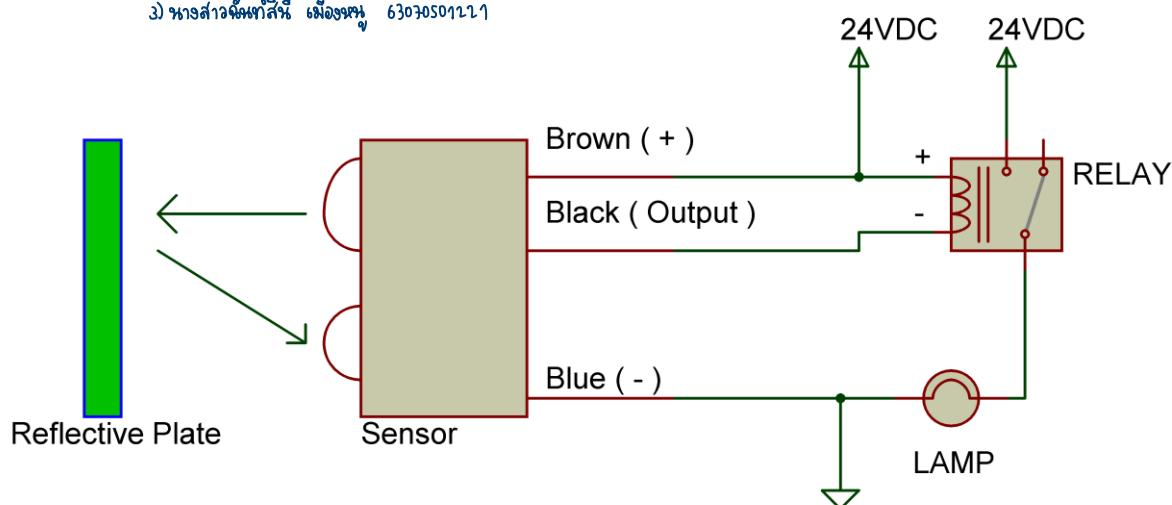

Figure 15: Circuit diagram of reflective photoelectric sensor circuit
1. Make a photoelectric sensor circuit according to the circuit diagram shown in Figure 15.